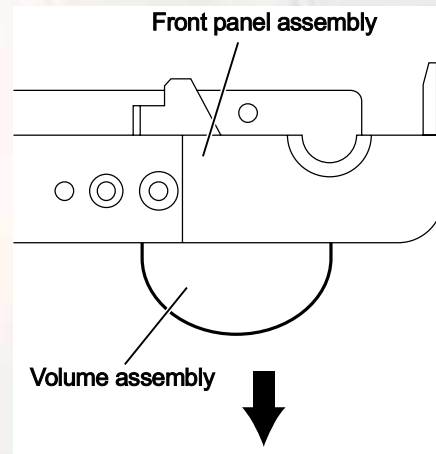

Fig.24
(See Figs.24 and 25)
- From the front side of the front panel assembly, pull out the volume assembly in the direction of the arrow. (See Fig.24.)